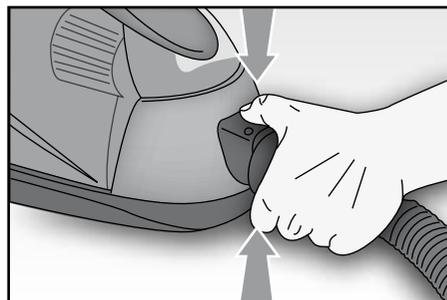

Fig. 2
- Fit the suction device (14) into the air inlet opening (6) and press it in until it clicks into place. To remove it, it is necessary to press the two release buttons (20) at the same time and to pull it out (Fig. 2).